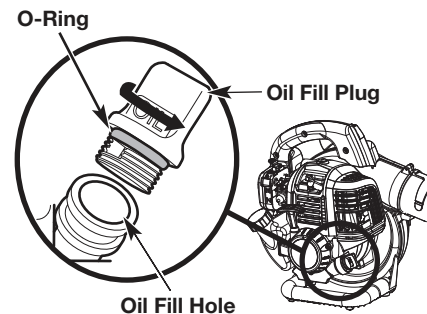

Fig. 4
2. Unscrew the oil fill plug (Fig. 4).
3. Pour the entire container of oil into the oil fill hole (Fig. 4).
**Note:** Make sure the O-ring is in place on the oil fill plug (Fig. 4).